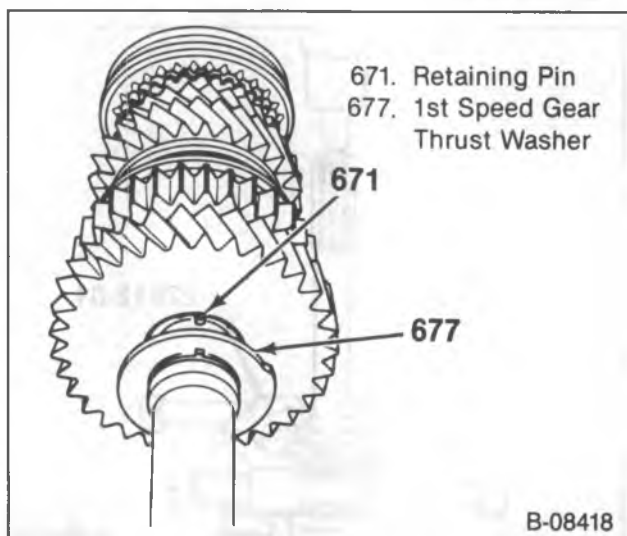
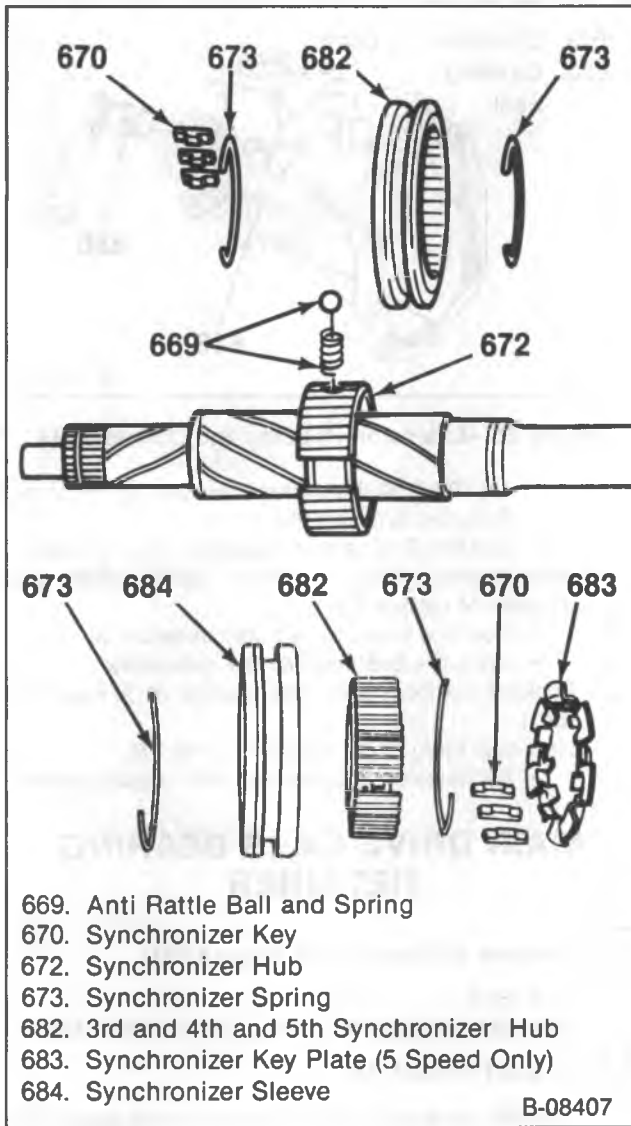
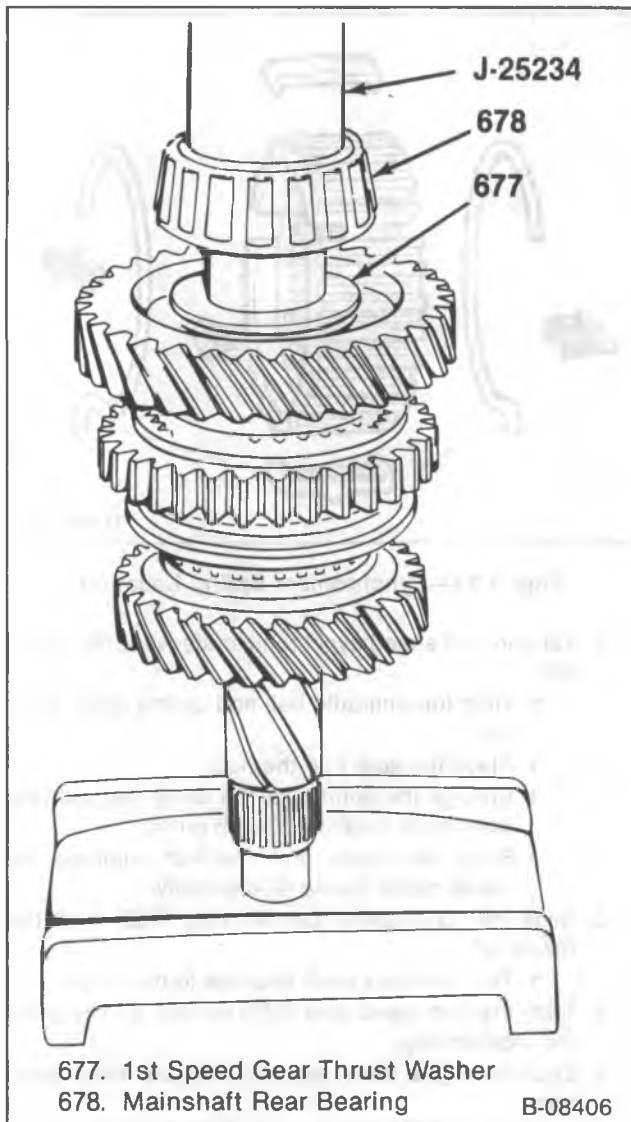

Figure 21—1st Speed Gear Retaining Ring
Figure 22—Synchronizer Components
Figure 24—Installing the Mainshaft Rear Bearing
7. Remove the 1st speed gear thrust washer (677).
8. Pull the retaining pin out and remove the 1st speed gear (676) (figure 21).
9. 1st and 2nd speed synchronizer sleeve (674) (figure 22).
- Do not lose the antirattle ball and spring (669) (5 speed only).
10. Synchronizers (630 and 662) (figure 22).
1. Synchronizers (630 and 662) (figure 22).
2. 1st and 2nd speed synchronizer sleeve (674) (figure 22).
- Hold the antirattle ball and spring (669) in the hub.
3. Slide the 2nd speed blocker ring (668) onto the mainshaft.
4. Slide the 2nd speed gear (667) on with the cone into the blocker ring.
5. 2nd speed gear thrust washer (666) and a new snap ring.
6. Slide the 1st speed blocker ring (675) onto the mainshaft.
7. Install the 1st speed gear (676) and a new retaining pin (figure 21).
8. Slide the 1st speed gear thrust washer (677) against the gear.
9. Install the mainshaft rear bearing (678).
- The bearing may have to be pressed on using J 25234 (figure 24).
10. Install the 5th speed driven gear (679) using J 22912-01.
11. Slide the 3rd speed gear (664) on with the cone to the front.
12. Slide the 3rd speed blocker ring (663) onto the 3rd speed gear.
13. Install the 3rd and 4th synchronizer (662) with the hub offset to the front.
14. Slide the 4th speed blocker ring (661) into the 3rd and 4th synchronizer.